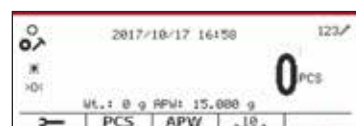

Figure 41
2. Press the softkey corresponding to the **APW** icon. (See Figure 41)